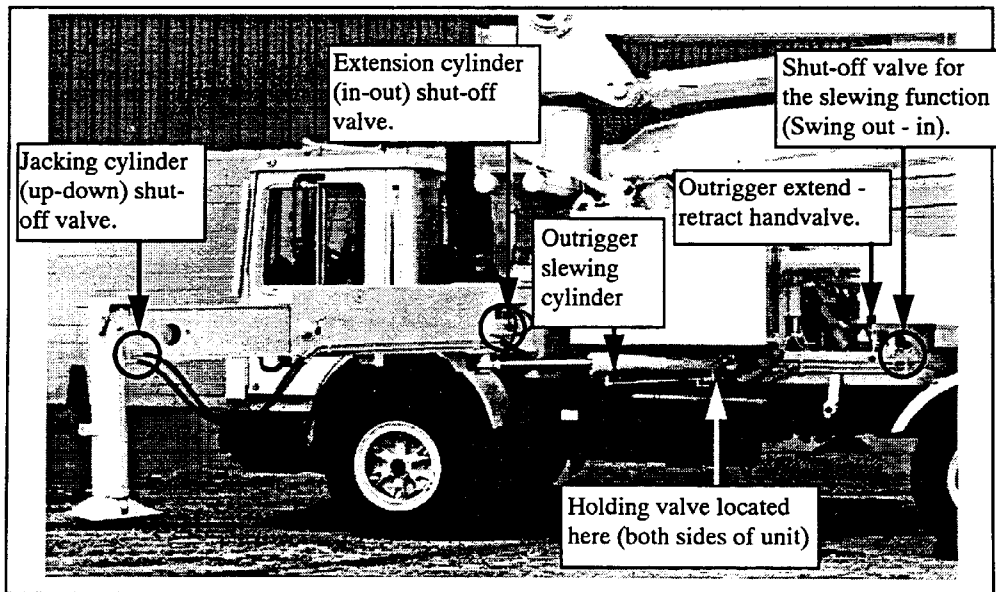

Figure 1. Shut-off valve locations
5. Choose one side of the unit to test. AT THIS POINT, BE SURE THAT THE OUTRIGGER IS FREE TO MOVE UP OR DOWN AND SLEW IN OR OUT WITHOUT HITTING ANYTHING. See Figure 1. Open the shut-off valve for the jacking (up-down) function (this is the shut-off valve that is located at the end of the outrigger, above the pad).